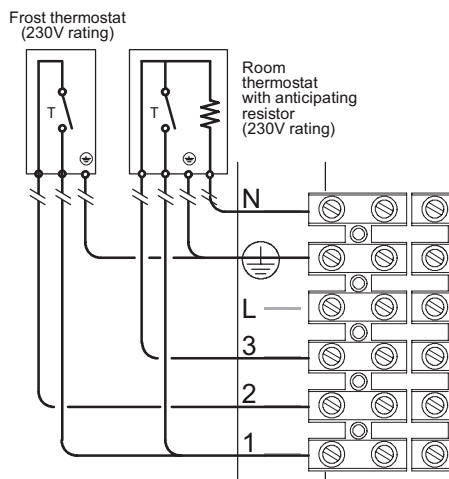

Fig. 6.25
- Connect the frost thermostat between terminals 1 and 2 as shown in Fig. 6.24, Fig. 6.25 or Fig. 6.25.